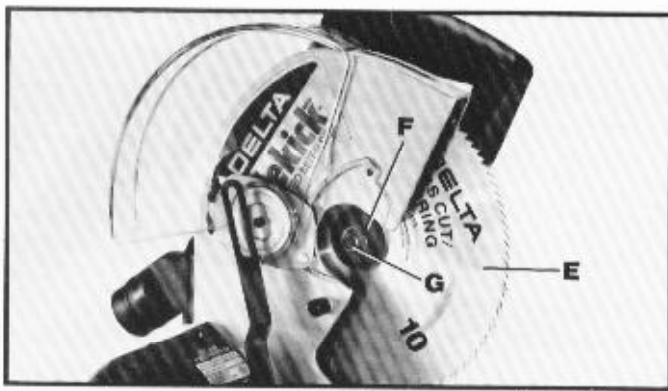
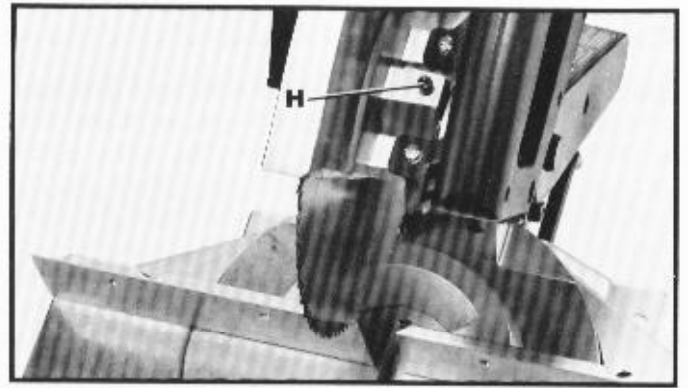

Fig. 9
Fig. 10
4. Assemble saw blade (E) Fig. 9, to the saw arbor. **MAKE CERTAIN TEETH OF SAW BLADE (E) ARE POINTING DOWN AT THE FRONT, AS SHOWN.** Assemble outside blade flange (F) to saw arbor, making sure flats on outside blade flange (F) are engaged with flats on arbor shaft. Also make sure outside blade flange (F) is clean and free of any foreign substance.
5. Thread arbor screw (G) Fig. 9, into saw arbor by turning screw (G) counterclockwise as far as possible by hand. Then tighten arbor screw (G) Fig. 9, with wrench supplied while at the same time pressing in on arbor lock (H) Fig. 10, to keep arbor from turning.